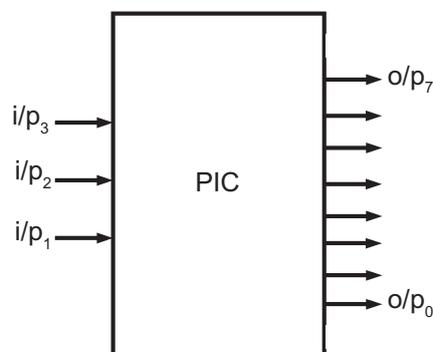

Fig. 1(c)
- (c) The output voltage from a voltage divider can be connected to the analogue input of a PIC shown in **Fig. 1(c)** which has mixed analogue and digital I/O.